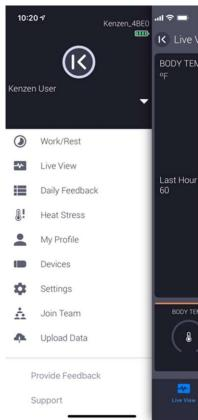

Figure 42: Join Team
2. Go to the Main Menu and select **Join Team** (Figure 42).